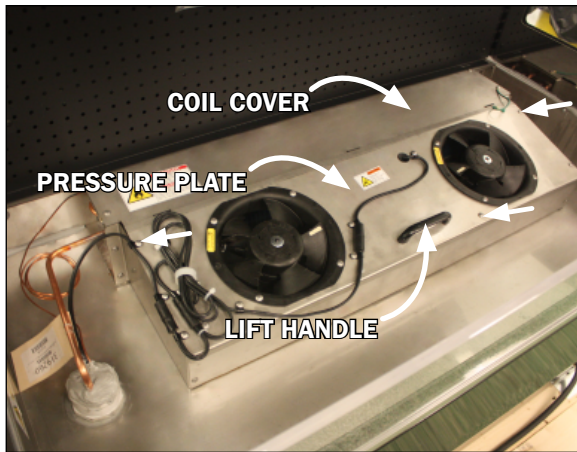

Fig. 21 Pressure plate, coil cover, screws and lift handle
3. To access the underside of the fans first remove the screws on the top ends and front sill of the pressure plate cover (Fig. 21). Lift the pressure plate by use of the provided lift handles (Fig. 21). There are hinges shared between the pressure plate and coil covers. **Note: It is recommended that more than one person lift the pressure plate.** The topside of pressure plate will rest against the topside of the coil cover, exposing the underside of the pressure plate and fans (Fig. 21).
2. Remove the top two screws at both ends of the coil cover (Fig. 21), as well as the screws from the top ends and front sill of the pressure plate cover (Fig. 21). **Be sure to save the removed screws for reassembly.**